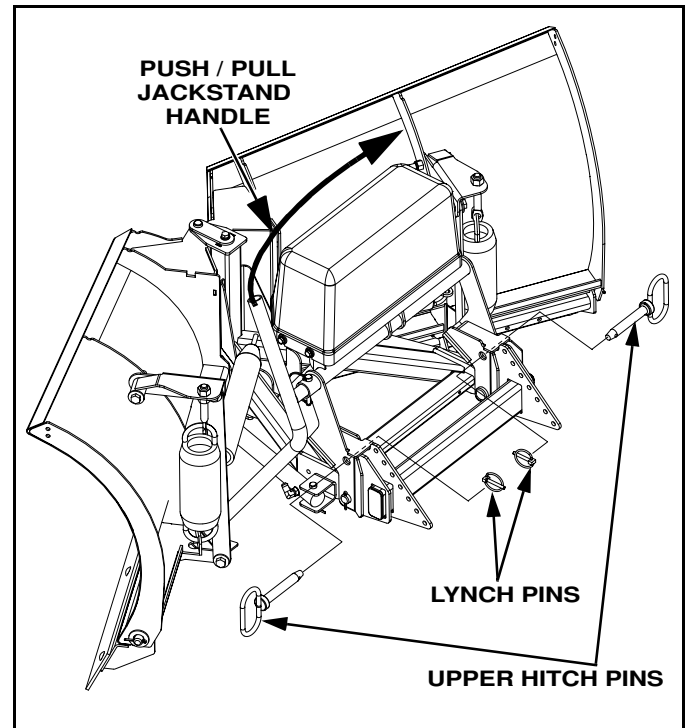

Figure 1-13
5. With plow still in float, insert upper hitch pins and secure with lynch pins. Use jackstand to help align holes if needed. (See Figure 1-13)